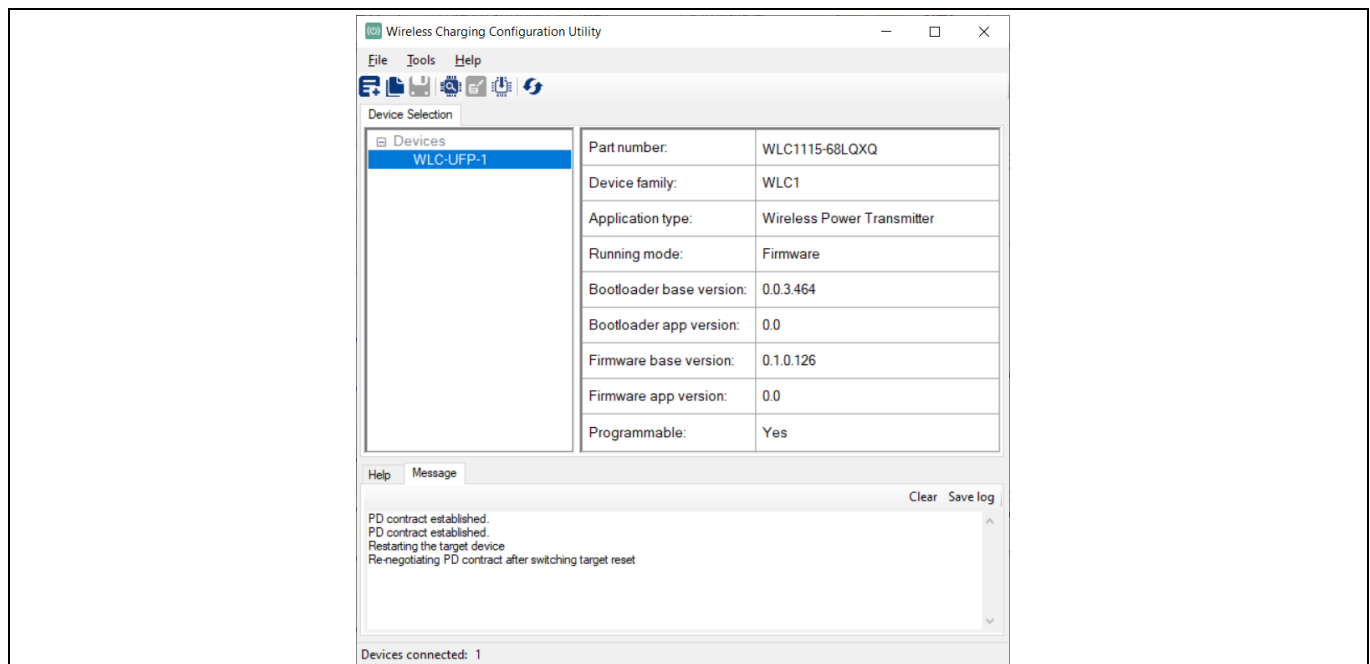

Figure 11 Selective device in Wireless Charging Configuration Utility
- d) Confirm that the reference board is selected under the **Device Selection** tab, as shown in Figure 11.